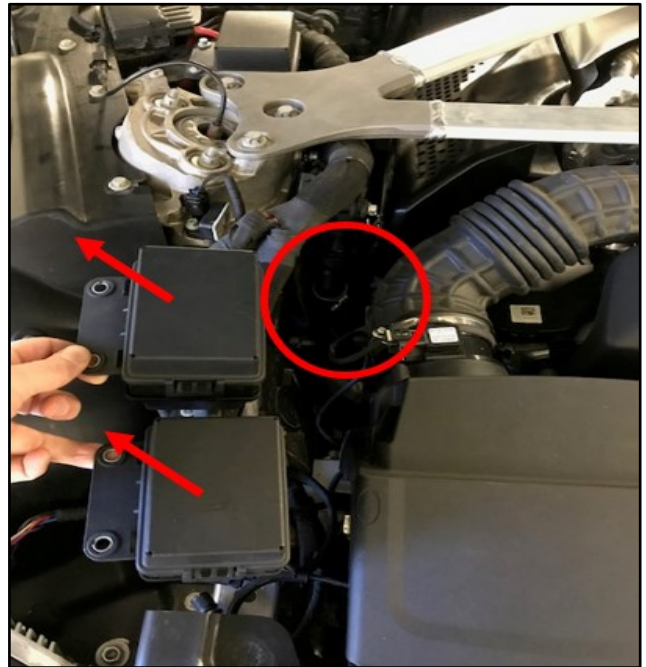

Figure 2
3. Move the fuse boxes to get access to the hose for the sound regulator (refer to Figure 2).